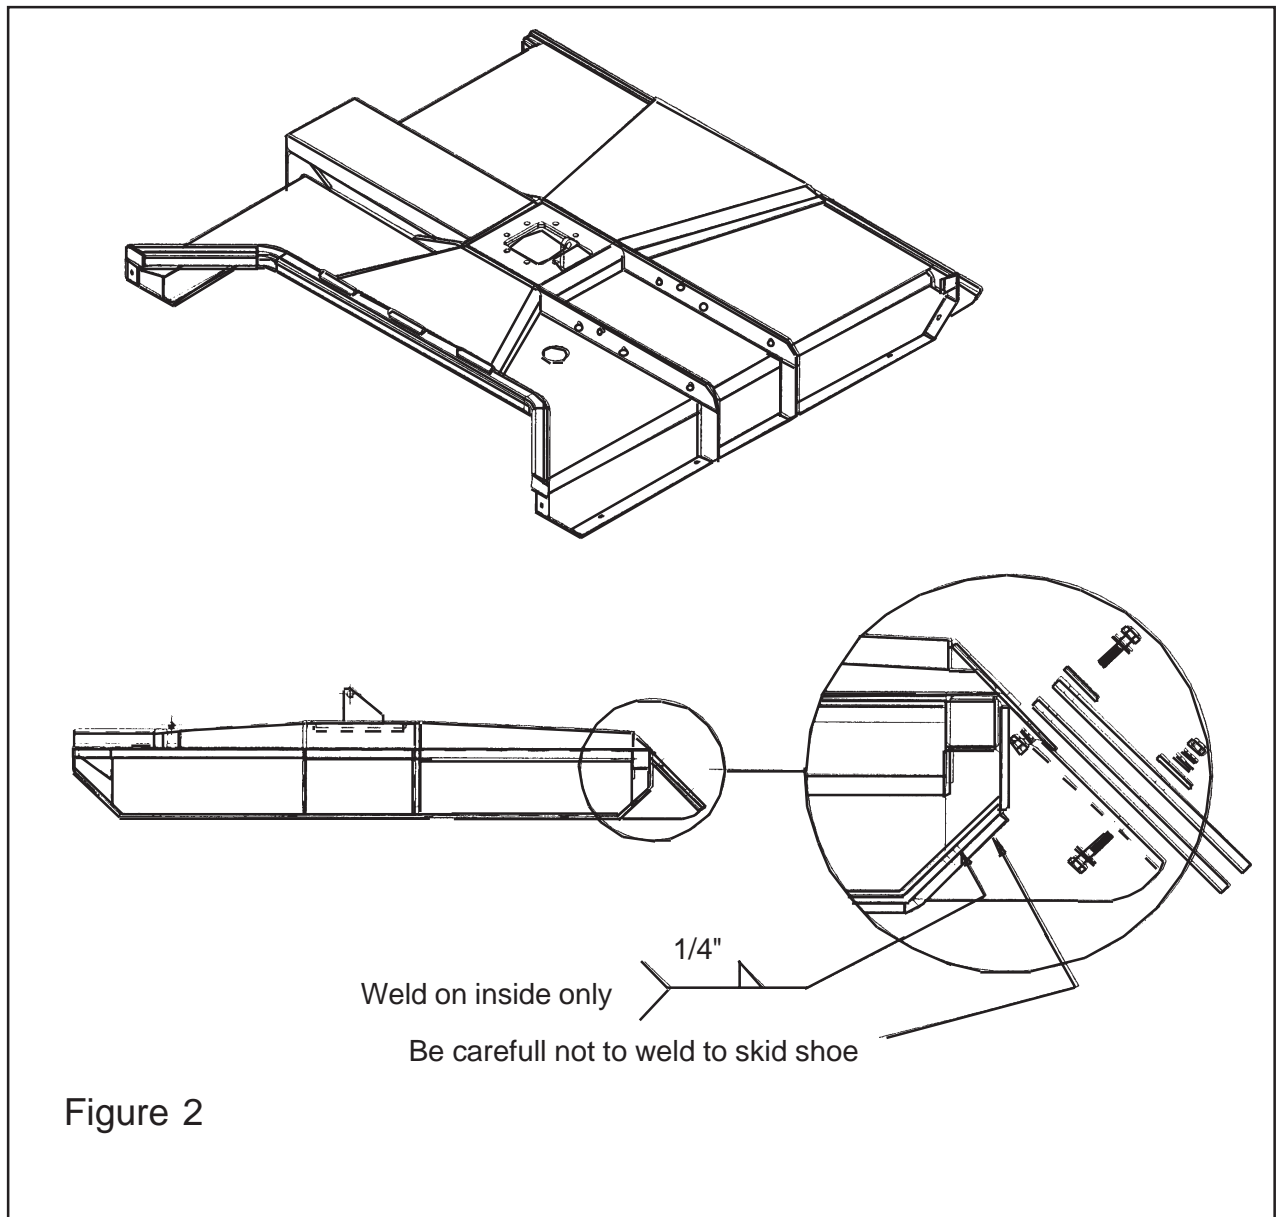

Figure 2
2. Clean area to be welded of paint and debris. Align and Weld bracket to head as described in Figure 2. Clean weld and repaint area as needed.